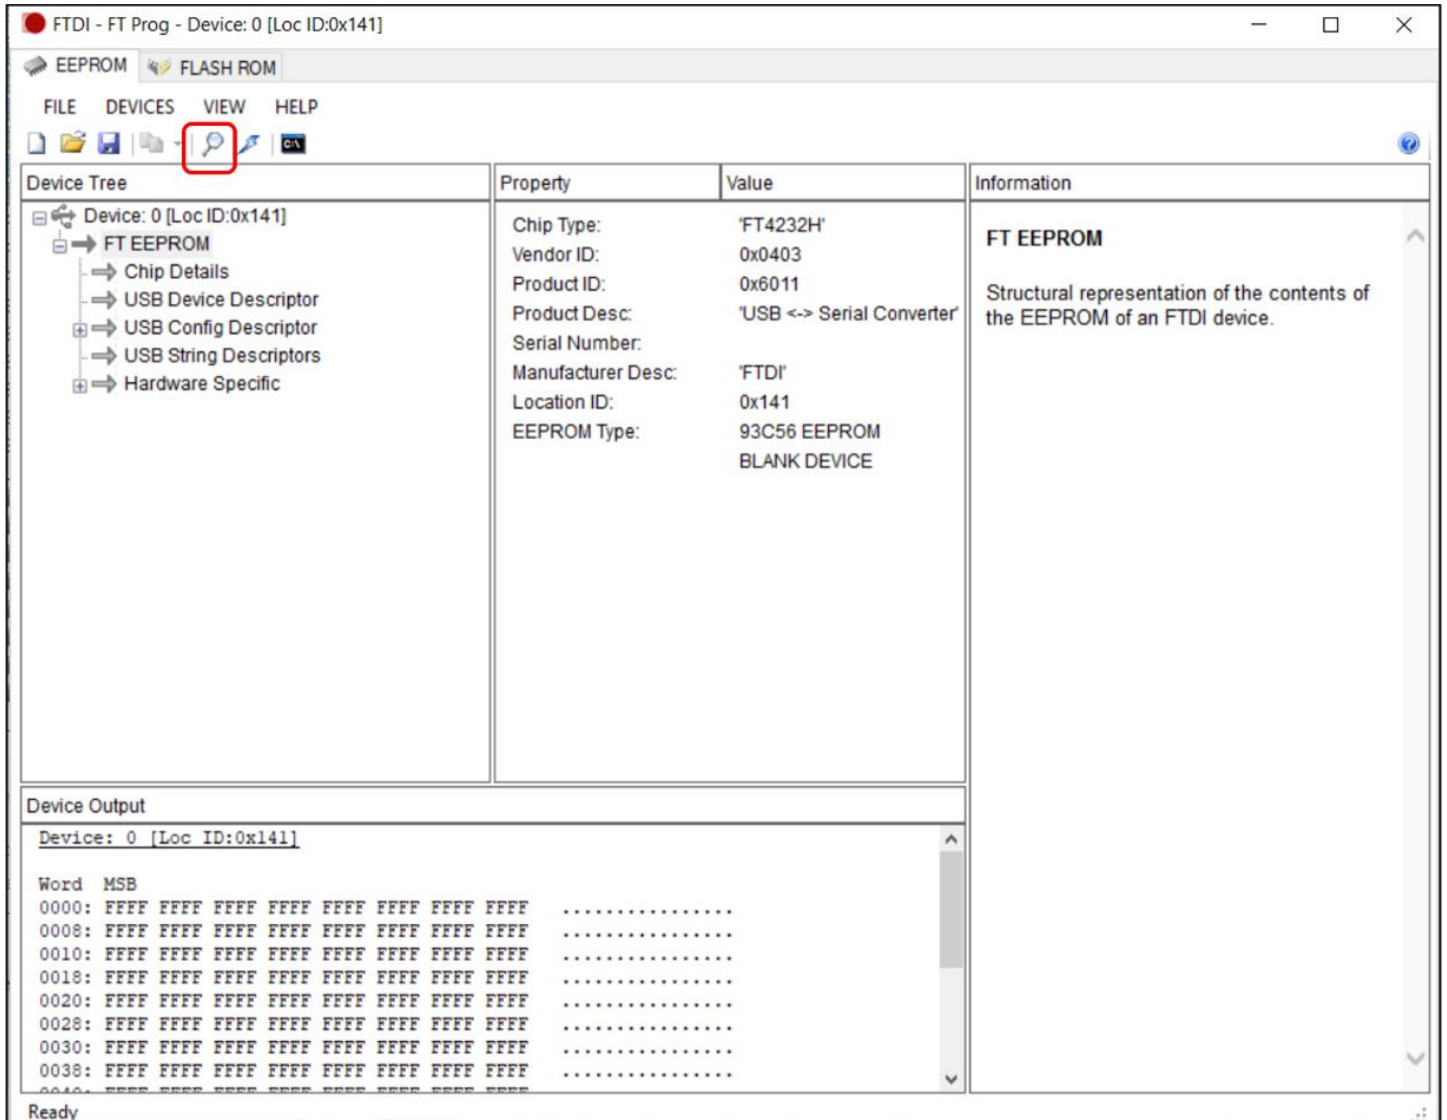

Figure 49: FT_Prog - Device detected
- Open the FT_Prog software and click on `Scan & Parse` button to detect the COM devices. FT_Prog software shows the identified devices in tree with device properties, as shown in Figure 49.